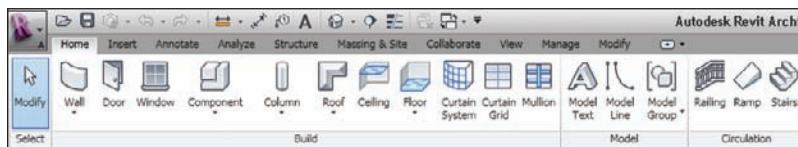

FIGURE 1.6 The Ribbon is the backbone of Revit Architecture.
1. At the top of the Revit window is the Ribbon, and built into the Ribbon is a series of tabs. Each tab contains a panel. This Ribbon will be your Revit launch pad! Speaking of launch pad, click the Wall button on the Home tab, as shown in Figure 1.6.